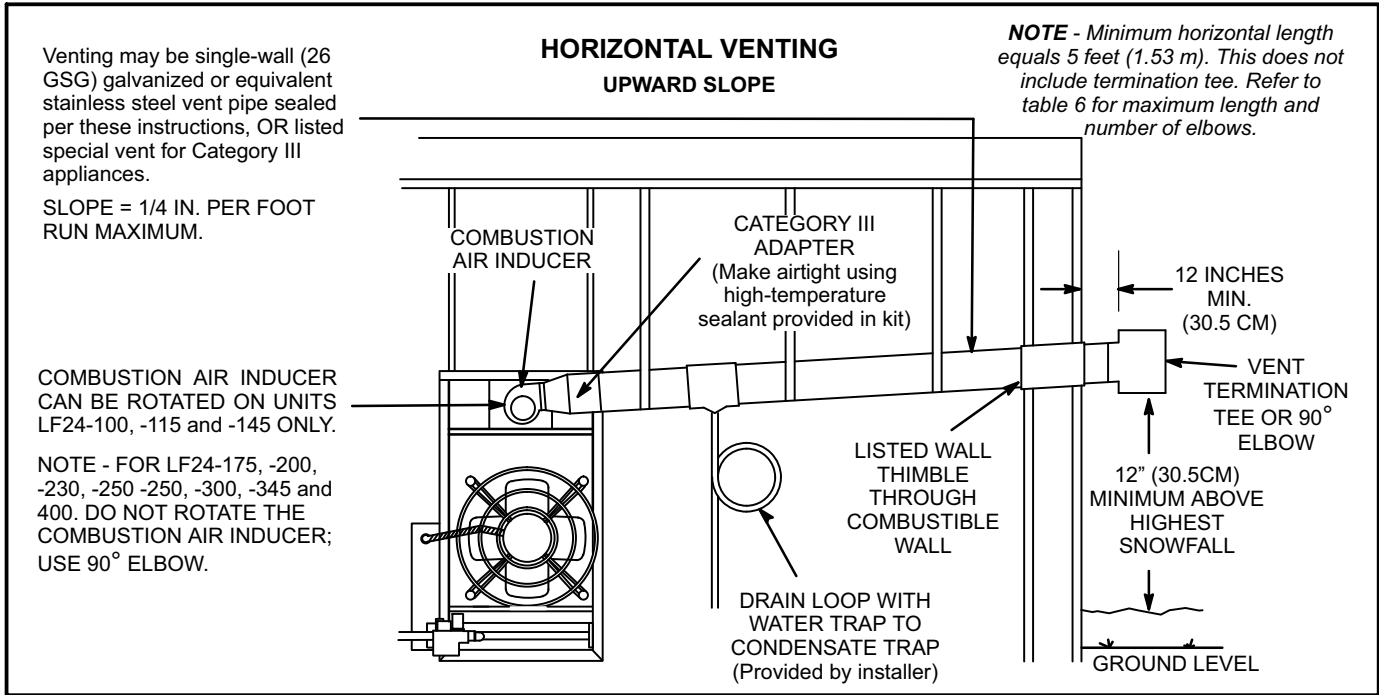

FIGURE 3
- 10 - For upward sloped vent, see figure 3, condensate tee and drain must be installed within the first 5 feet (1.53 m) from the unit heater to protect the appliance.